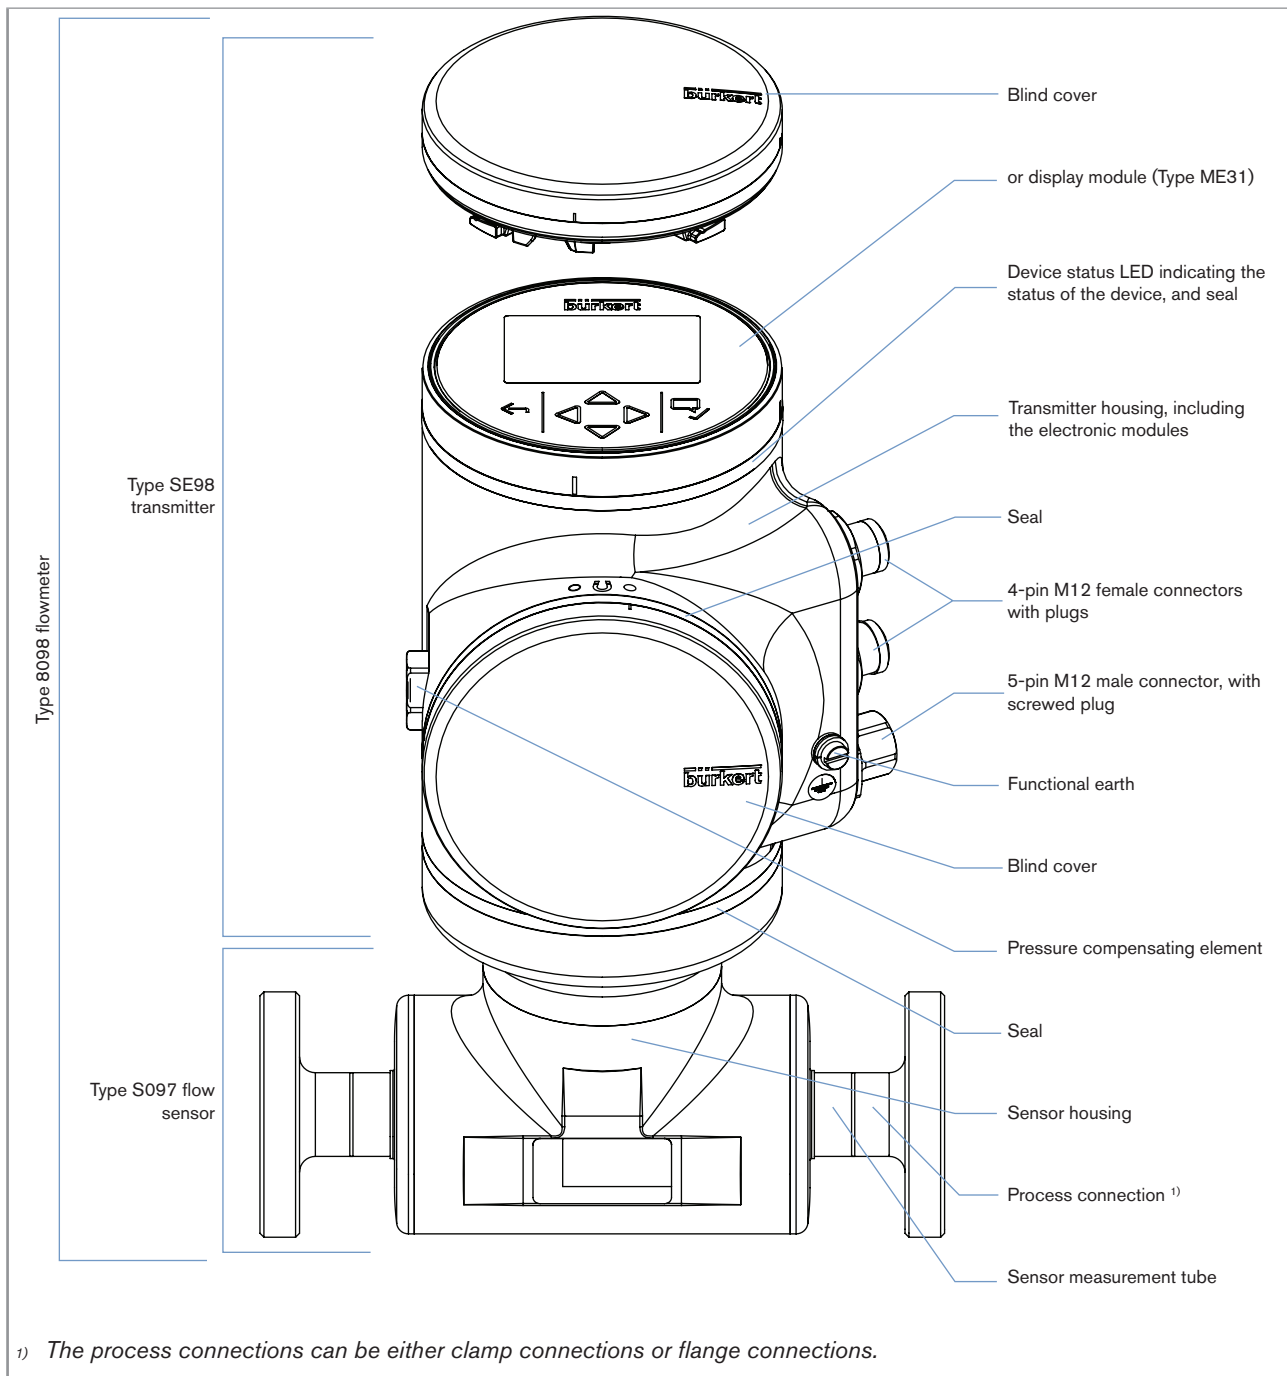

Fig. 2: Description of an Ethernet version of the device, with 2 4-pin M12 female connectors and 1 5-pin M12 male connector
- Fig. 2 describes the Ethernet version of the device, i.e. a device with 2 4-pin M12 female connectors and 1 5-pin M12 male connector.